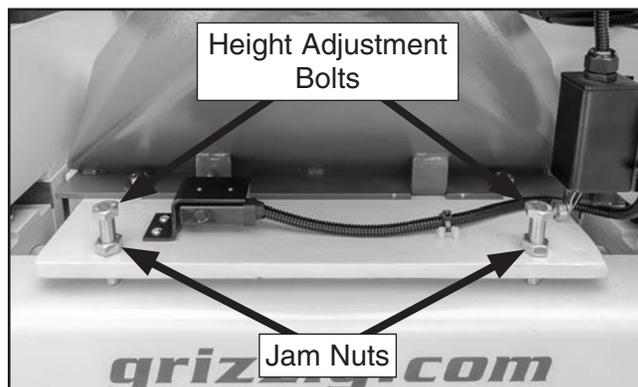

Figure 121. Location of pressure bar height adjustment hardware.
5. Loosen pressure bar jam nut and height adjustment bolt (see **Figure 121**).